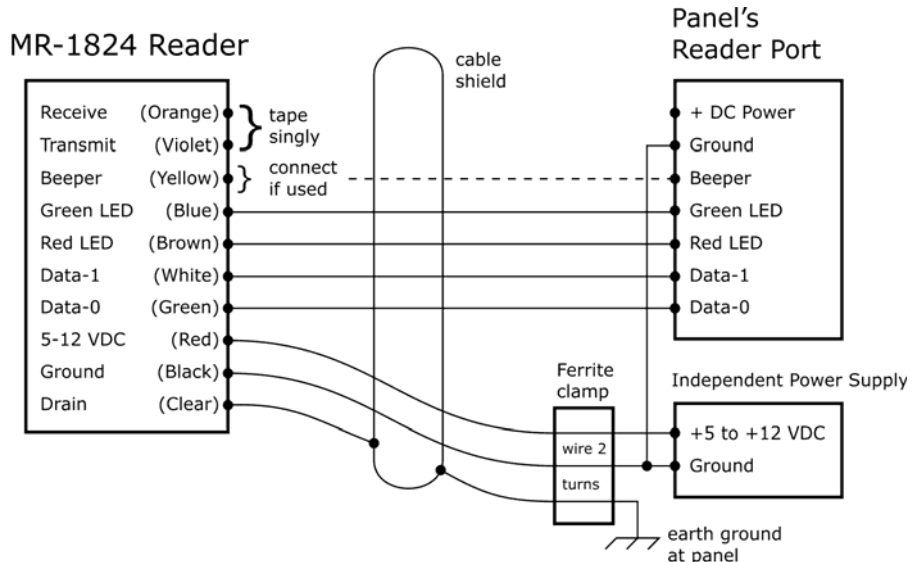

FIGURE 2. Wiring Diagram (Wiegand)
3. Connect the reader's cable to the controller panel as shown in Figure 2. Both the **brown** wire and the **blue** wire are used for LED control. Connect the **yellow** wire only if used for Beeper control by the panel. **Do not connect the orange and violet wires to anything. Tape or cap the unused wires singly.**
(b) The number of conductors depends upon use of the optional Beeper feature. See Figure 2.
3. Connect the reader's cable to the controller panel as shown in Figure 2 on page 2.